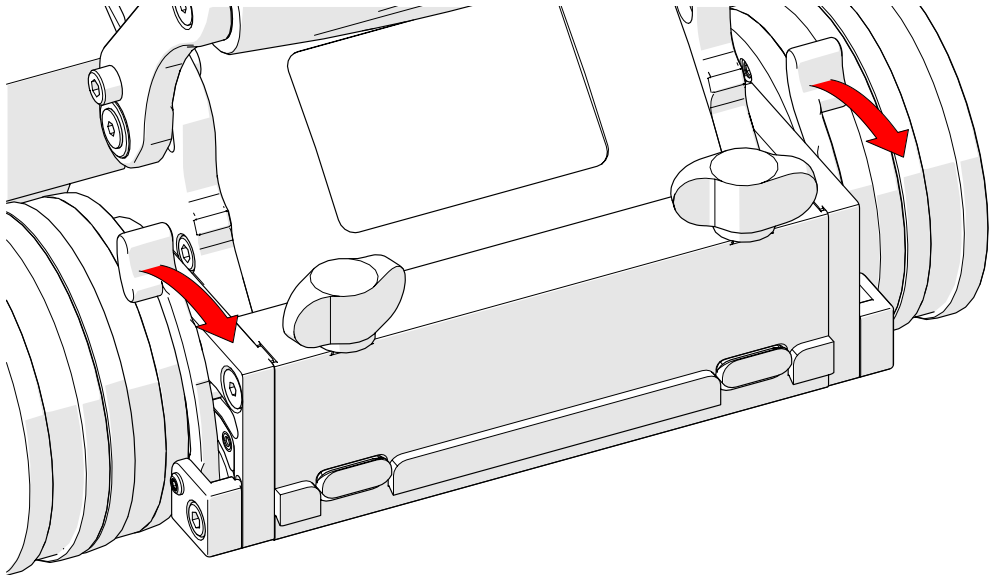

Fig. 199 - Front swivel adjustment levers
2. Release the front swivel adjustment levers (Fig. 199), at the front of the crawler, to position the front swivel mount.